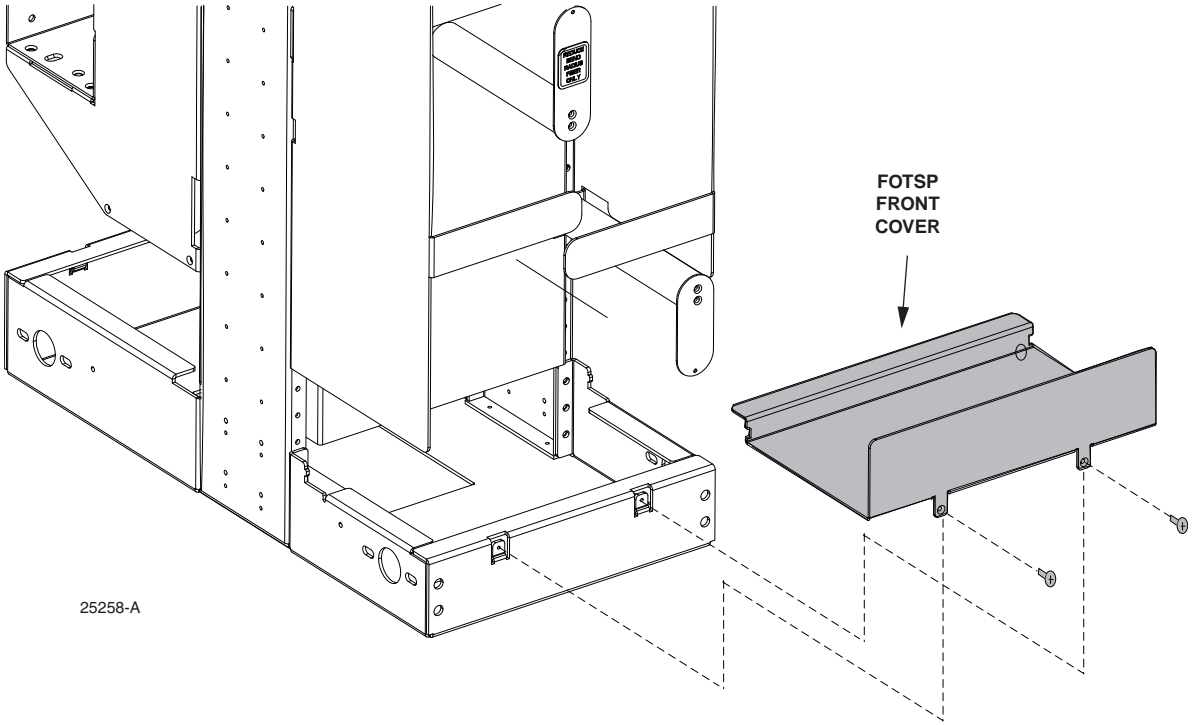
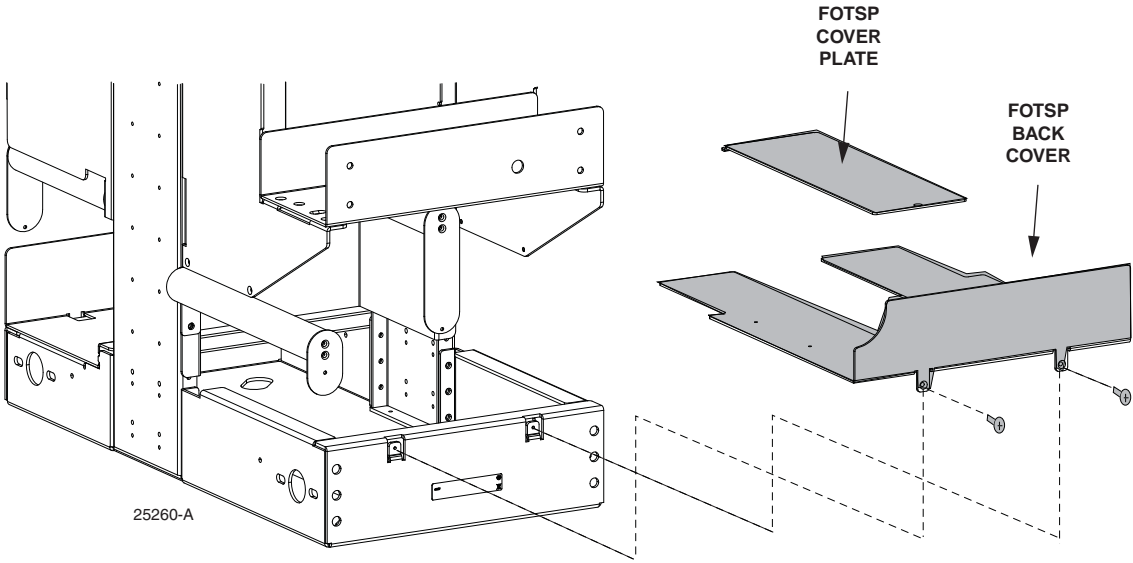

Figure 16. Removing FOTSP Front Cover
Figure 17. Removing FOTSP Back Cover and Cover Plate
4. Remove the FOTSP front cover, referring to Figure 16.
5. Remove the FOTSP back cover and cover plate (Figure 17).
11. Re-install FOTSP front and rear guard boxes (reverse of steps 3 and 4, and reverse of what is shown in Figure 16 on Page 17 and Figure 17 on Page 17).